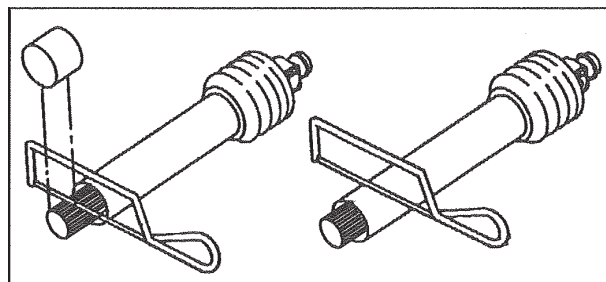

Figure 5. Cutting the Driveline Shaft
7. Use an abrasive wheel power saw to cut the male end of the shaft. Cut the same amount from both the splined shaft and the safety shield. See Figure 5. Use a file to remove any burrs from the cut end.